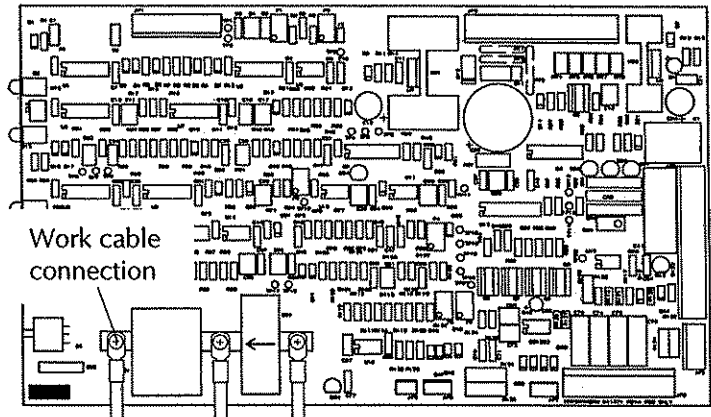

Figure 3 - Control Board with Work Cable Connected
5. Unscrew and remove the old work cable lead from the control board - Fig. 3.
13. Attach the work cable to the control board - Fig. 3.